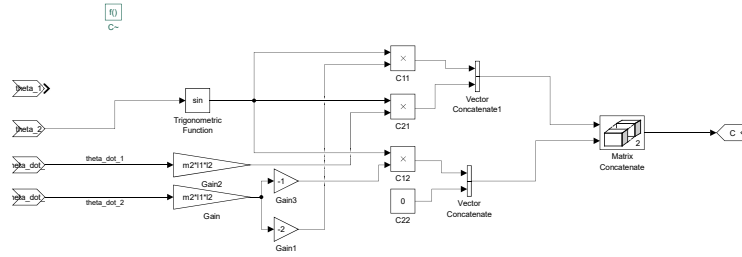
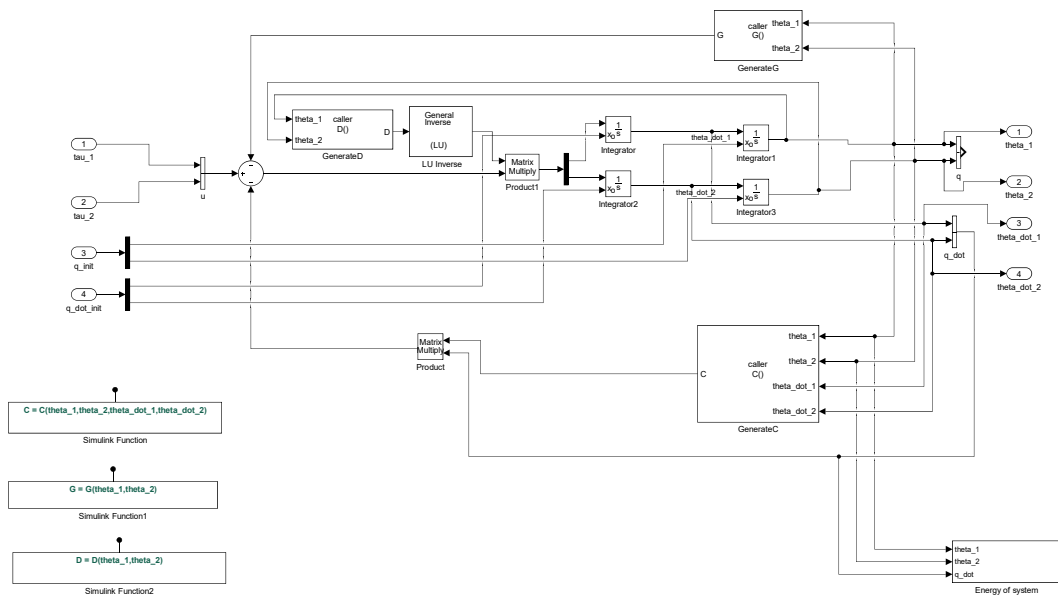

Figure 5: Simulink function block to generate $C(q, \dot{q})$
Figure 8: Simulink block to the complete manipulator dynamics
with $D(\mathbf{q})$ given by equation (222), $C(\mathbf{q}, \dot{\mathbf{q}})$ given by (232) and $G(\mathbf{q})$ by (233), and $\mathbf{q} = \begin{bmatrix} \theta_1 \\ \theta_2 \end{bmatrix}$. To generate these matrices in Simulink, we implement block functions shown in Figure 5, Figure 6 and Figure 7 in Appendix A. The complete manipulator dynamics are implemented in Figure 8.